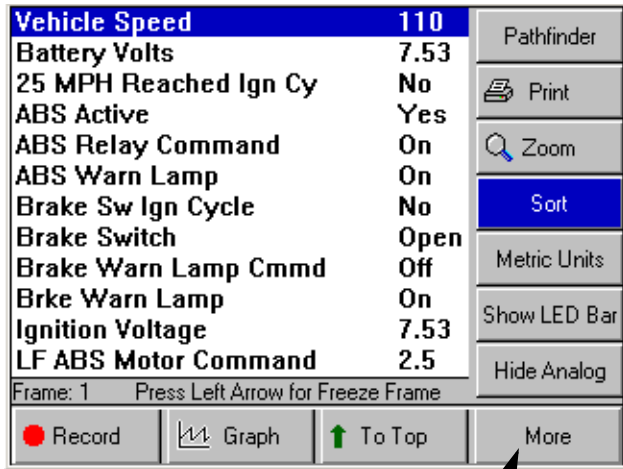

Figure 4.17: Datastream Screen - Sort Function
**NOTE:** Figure 4.17 shows all graphs disabled. To use the Sort by Graphed function, one or more graphs must be displayed. To use the Sort by Locked function, one or more lines must be locked.